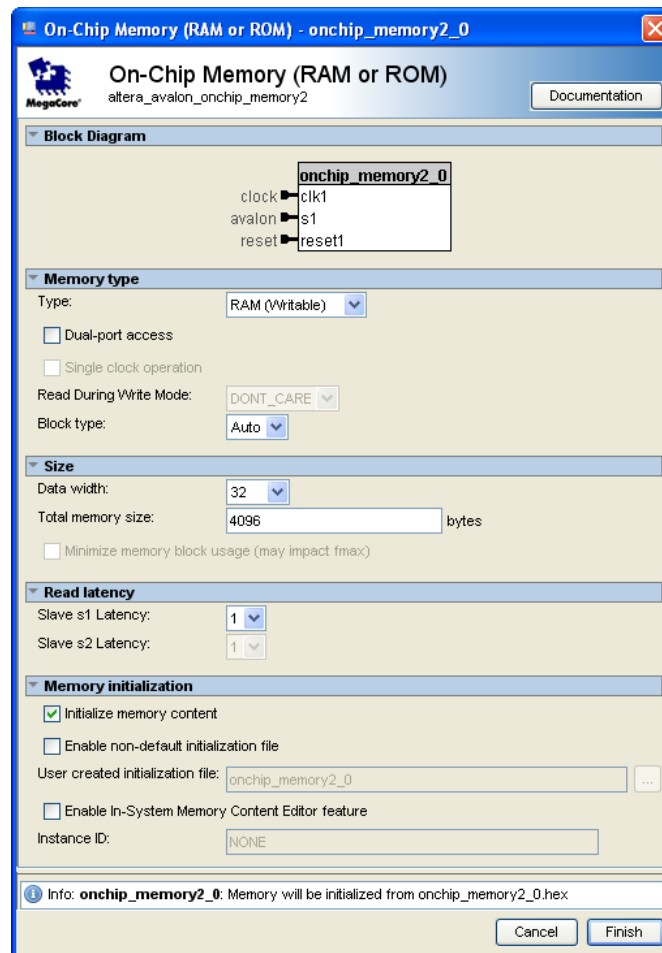

Figure 8. Define the on-chip memory.
- In the On-Chip Memory Configuration Wizard window, shown in Figure 8, set the Data width to 32 bits and the Total Memory Size to 4 Kbytes (4096 bytes)